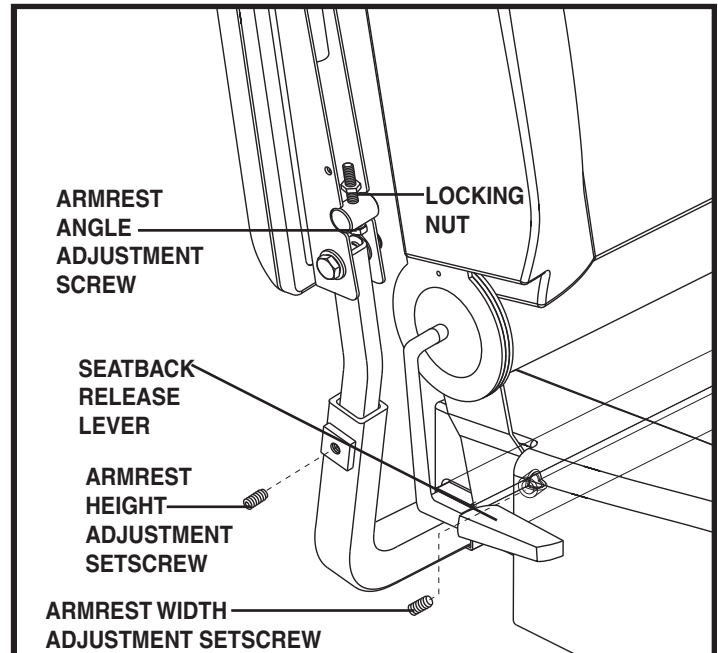

Figure 10. Armrest and Seatback Adjustments
If your power chair is equipped with a manual recline seatback, you can adjust the seatback angle with the seatback release lever. The lever is located on the right side of the seat base. See figure 10.
1. Locate the armrest width adjustment knob on each side of the armrest receiver bracket. See figure 10.
1. Loosen the setscrew on the armrest. See figure 10.